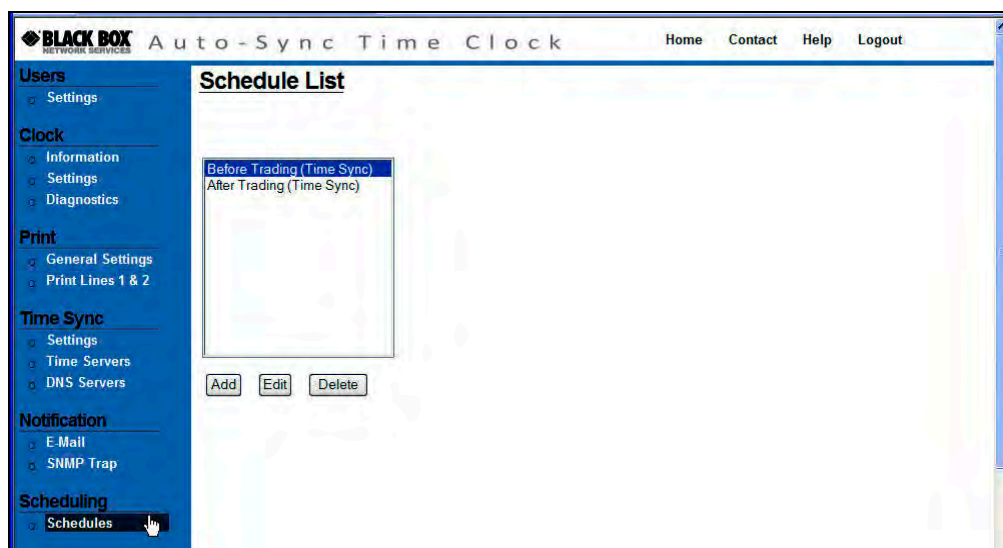

Figure 4-20. Schedule List.
1. Click on the **Schedules** link under Scheduling, and the **Schedule List** screen will appear (see *Figure 4-20*).